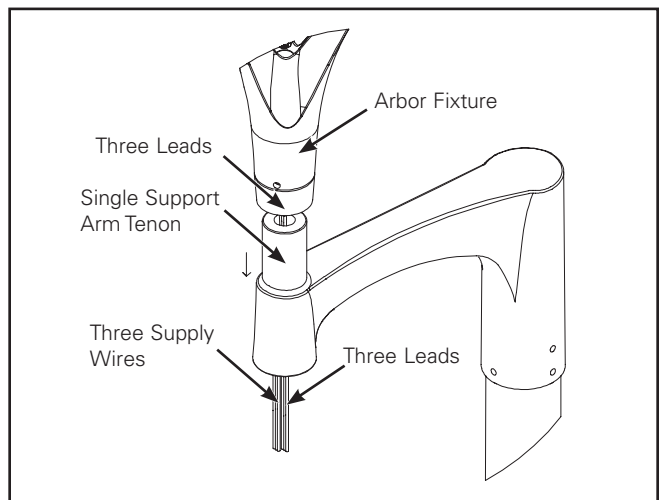

Figure 7.
9. Pull three leads from luminaire and insert into the arm tenon and through the cap hole. (Figure 7.)